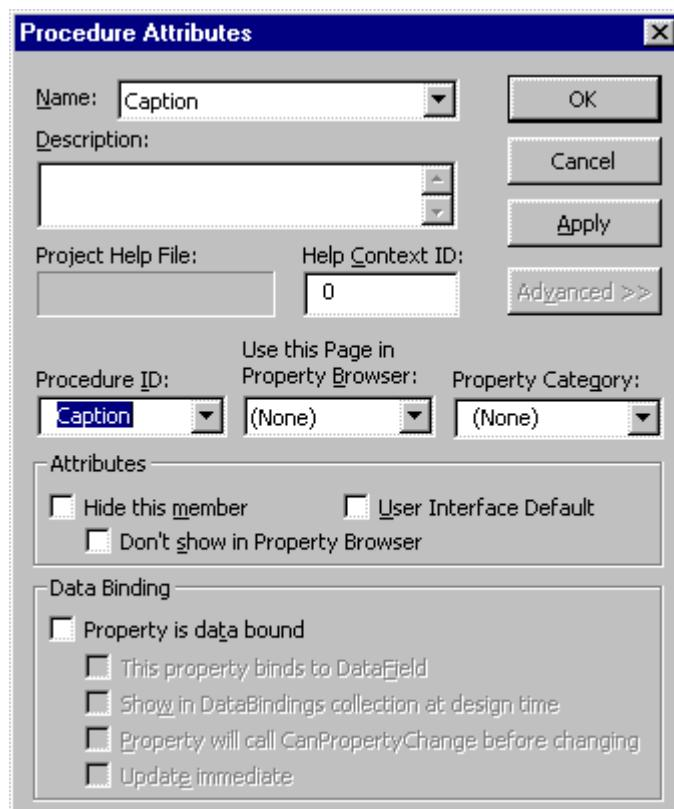

Figure 8. Choose the Caption procedure ID value for the Caption property.
3. Click the **Advanced** button, and, in the **Procedure ID:** list, select the **Caption** item. This choice indicates to Visual Basic that this procedure represents the Caption property for this object, and so it can add the appropriate Property window behavior. Click OK when you're done. Figure 8 shows the dialog box, once you've completed your mission.